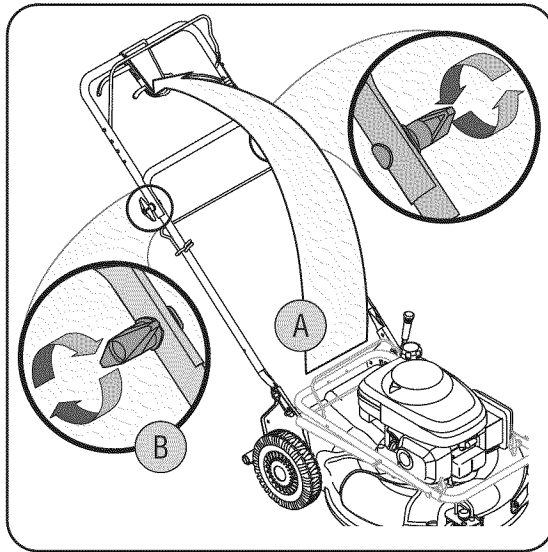

Figure 1
- a. Pull up and back on upper handle as shown in Figure 1. Make certain the lower handle is seated securely into the handle mounting brackets.